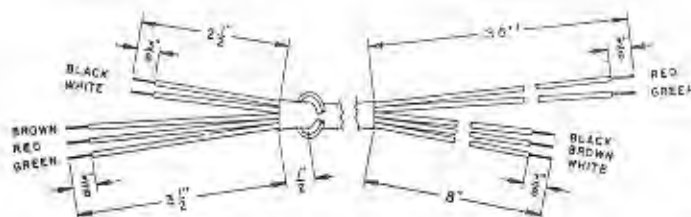

Figure 3. Cable Preparation.
3. Strip and trim the phonograph end of the 5-wire cable as shown in Figure 3. Connect cable to drive motor and terminal strip on the Tormat Selector Unit as shown in Figure 4.